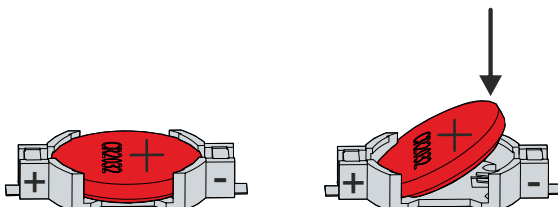

Fig. 21: Battery change
⇒ The battery is now in an oblique position (see fig. 21).
5. Push the high side of the battery down into the battery holder (see fig. 21).
If you have mirrored two SSDs in a RAID configuration and one of them has failed, you must first identify the faulty disk. You can check in the runtime of your operating system which SSD you have to replace, Port 0 or Port 1. Fig. 21 shows the position of Port 0 and Port 1 in the industrial PC.